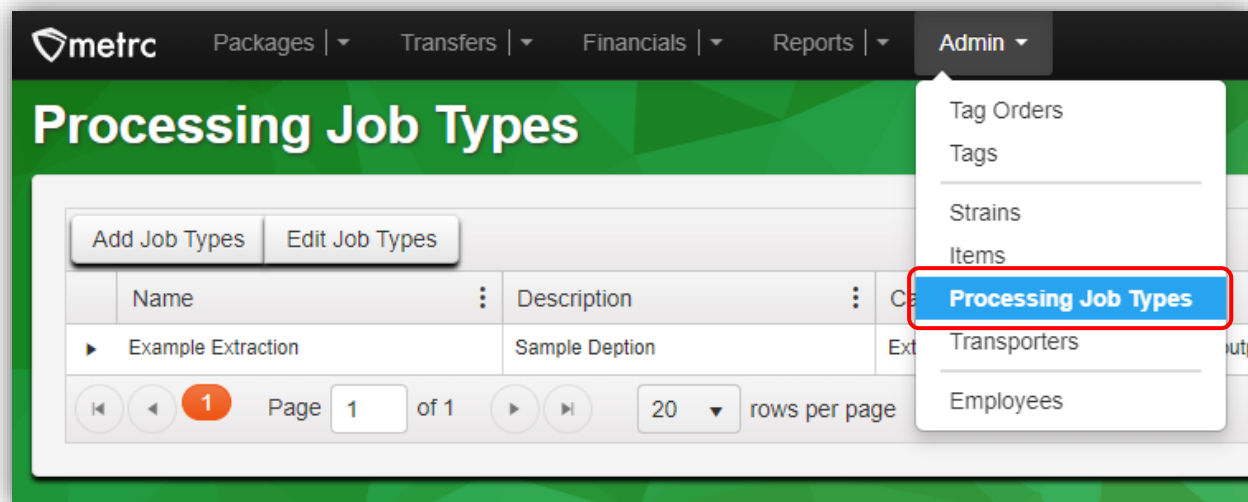

Figure 4: Processing Job Types grid in the Admin dropdown
- Go to the Processing Job Types option under the Admin area dropdown in the Navigational Toolbar – see **Figure 4**.